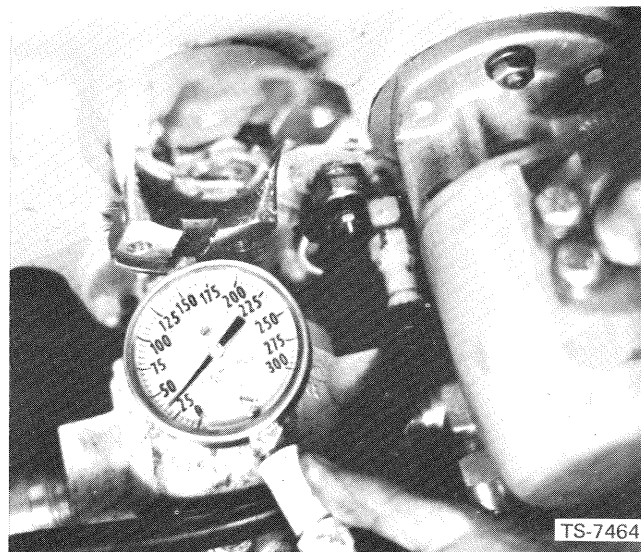

Fig. 10-4 Check Converter Out Pressure
2. Install a gauge at the converter OUT pressure port located below the sender unit on the rear of the converter. Fig. 10-4